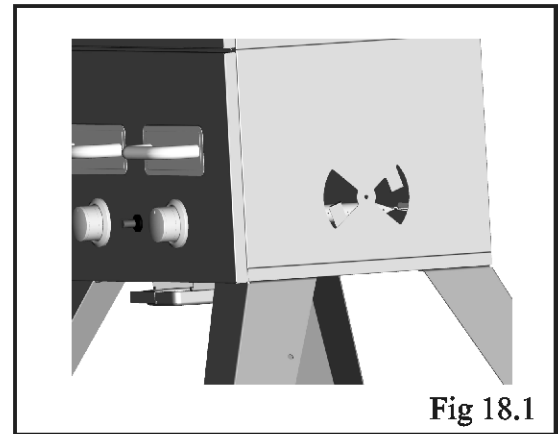

Fig 18.1
3. Use the match holder to secure and direct the match into the hole to burner, when igniter not working. Fig 18.1